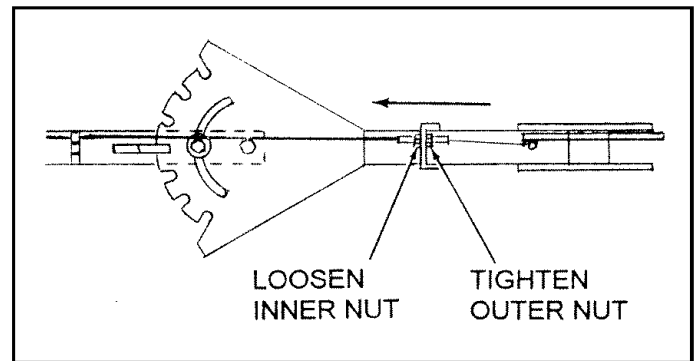

FIG. 2A
- Loosen the Outer Nut of the Clutch Cable. (See Fig. 2A)